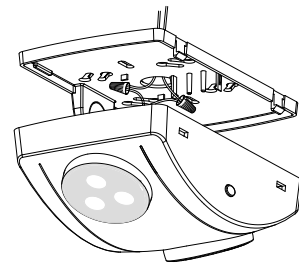

Figure 3
2. Difference between Back Power Feed and Top Power Feed: (Figure 3)